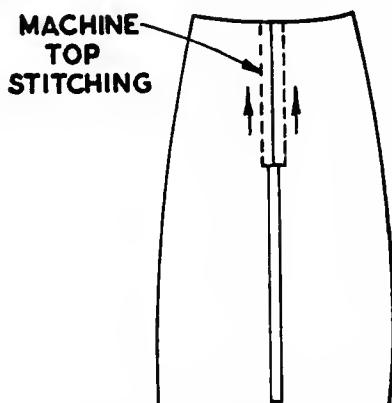

Fig. 281. Stitching the pleats.
- B. Stitch across the lower end first, then up to the waistline. Begin the other edge at the bottom and stitch to the waistline also. This method keeps the grain in line (Fig. 281).